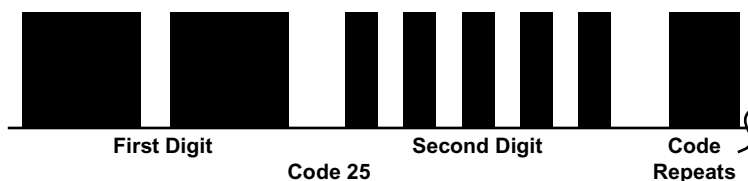

Figure 8-20 Honda engine Code Type 03
- Type 03, see Figure 8-20 and Table 8-4 on page 74